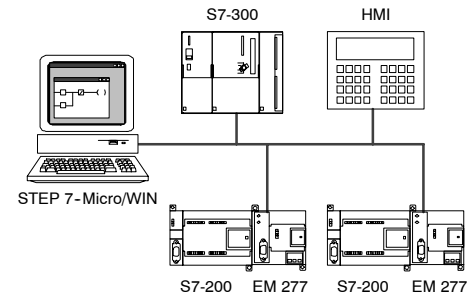

Figure 7-14 Baud Rates Above 187.5 Kbaud
For baud rates above 187.5 kbaud, the S7-200 CPU must use an EM 277 module for connecting to the network. See Figure 7-14. STEP 7-Micro/WIN must be connected by a communications processor (CP) card.